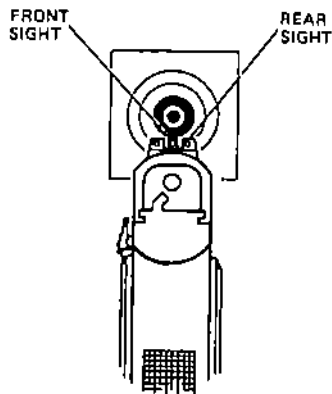

FIGURE 3-AIMING
3. Grasp pistol by grip and, keeping your finger outside the trigger guard, take aim. Aim by aligning target with front and rear sights. (See Figure 3). After identifying your target and seeing that it is clear to shoot, focus on the front sight. Be sure you have a safe backstop. THINK! What you will HIT if you MISS the target.